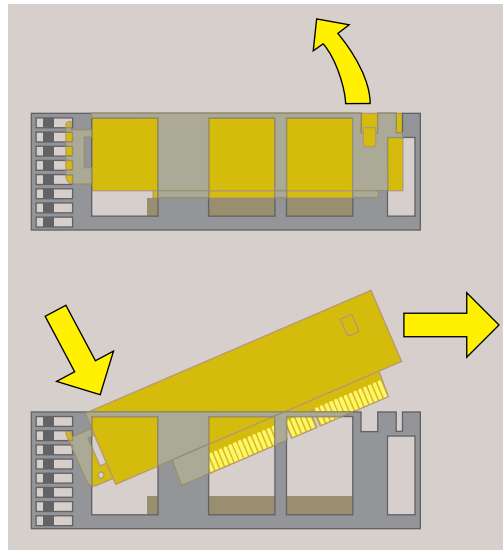

Figure 5-2 Removing the PCI Tray
3. Push down slightly on the rear of the PCI tray and remove it from the system module (Figure 5-2). *Do not remove the PCI board (if one is installed) from the tray.*